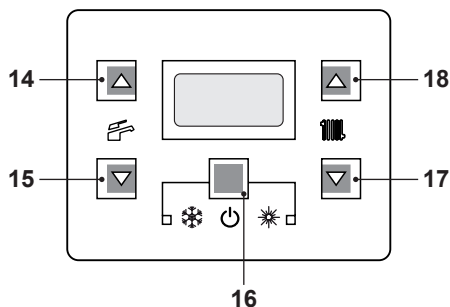
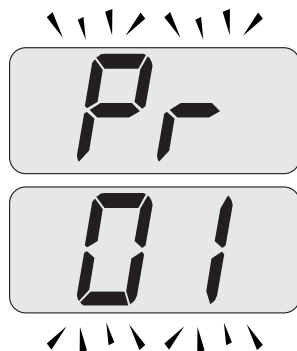
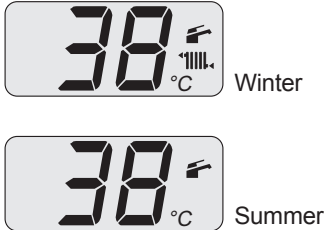

Fig. 10.14
Fig. 10.15
Fig. 10.20
- Enter in "programming mode" by sequentially pressing and holding in keys, 16 - 17 and then 18 (Fig. 10.14) for 10 seconds until the letters **Pr** that alternate with code **01** are displayed on the LCD display, indicating that "parameter 01" (Fig. 10.15) has been activated.
- Press keys 17 and 18 (Fig. 10.14) at the same time until the LCD display displays the letters **LP** that alternate with the heating water temperature value (e.g. **45**), indicating the activation of the "flue sweep function" at minimum output (Fig. 10.16).
- By pressing 18 (Fig. 10.14) it is possible to change power in flue sweep mode: with the letters **hP** on the LCD display which alternate between the heated water temperature (i.e. **32**), we are in the "flue sweep function" at the minimum power during heating (Fig. 10.17).
18 (Fig. 10.14) and hold in for 10 seconds to exit the "flue sweep mode" and return to the previously set boiler status (Fig. 10.20).